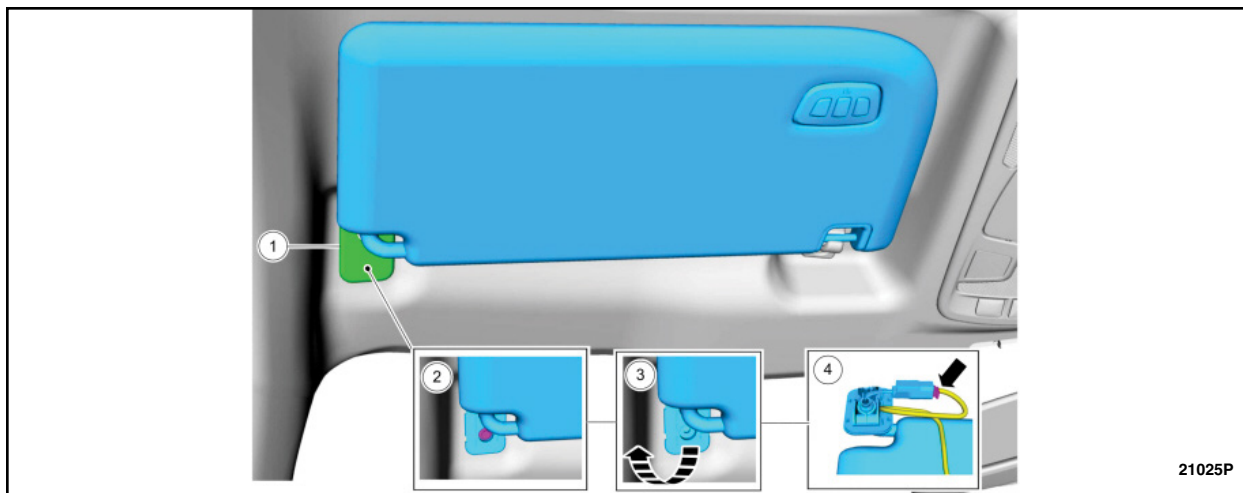

FIGURE 7
7. Remove the sun visor on both sides. See Figure 7.